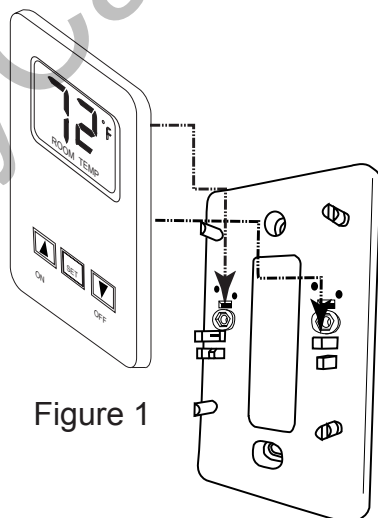

Figure 1
1. Remove face from backing plate this is done by sliding the face up about 1/2" then pull the face off the base plate. As shown in Figure 1
2. Locate the (2) holders for the 3V button cell batteries.
1. Remove face from backing plate as shown in Figure 1 then locate the TS-R-2A to where the (2) thermostat wires from the appliance can be pulled through the hole on the backing plate and connect them to the (2) terminal screws.
2. After locating the (2) two mounting holes and mark the holes on the wall.
3. Use the (2) two dry wall anchors and screws (that are supplied) to mount the base plate to the wall as shown.
6. Reinstall the face to the backing plate this is done by sliding the face in and down about 1/2" then check that the (2) male terminal connectors on the face are engaged in the female terminal connectors on the backing plate. As shown in Figure 1.